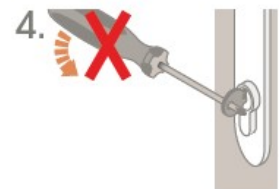

Figure 5 - Do not force the cylinder
7. **DO NOT FORCE** the cylinder into place as this will damage the cylinder and lock case (Figure 5).